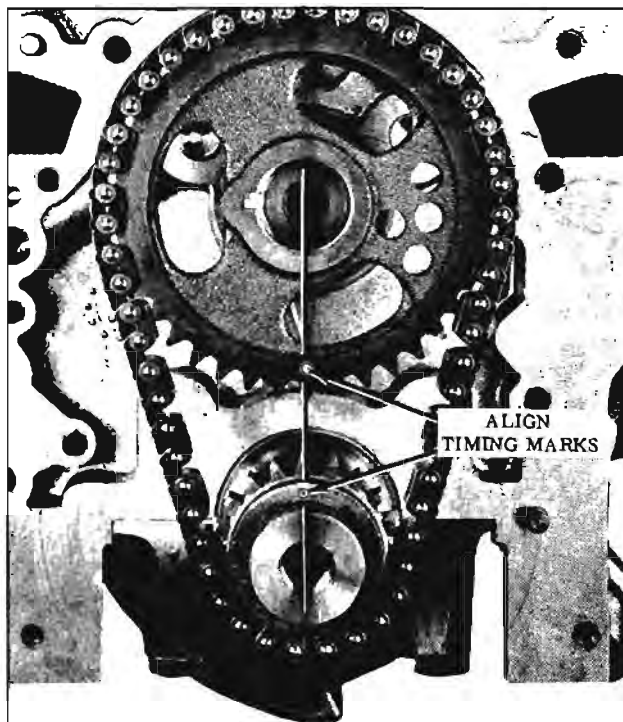

Fig. 8-144 Timing Gear Positions
1. Install camshaft gear, crankshaft gear, and timing chain together to align timing marks. (Fig. 8-144)